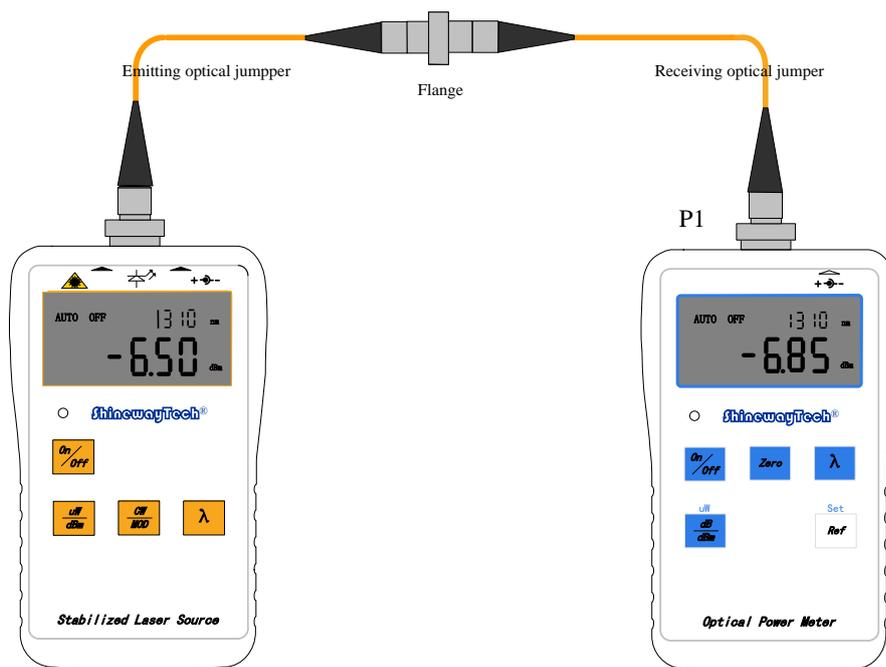

FIGURE20. CONNECTION OF LINK LOSS TESTING
1. If users want to make full use of the measurement function of the instruments(laser source and power meter), then test of the output power of laser source connected to optical jumper cable must be performed before link testing. And connect laser source and power meter with tested optical jumper cable, as in Figure20. Power value is noted as P1.